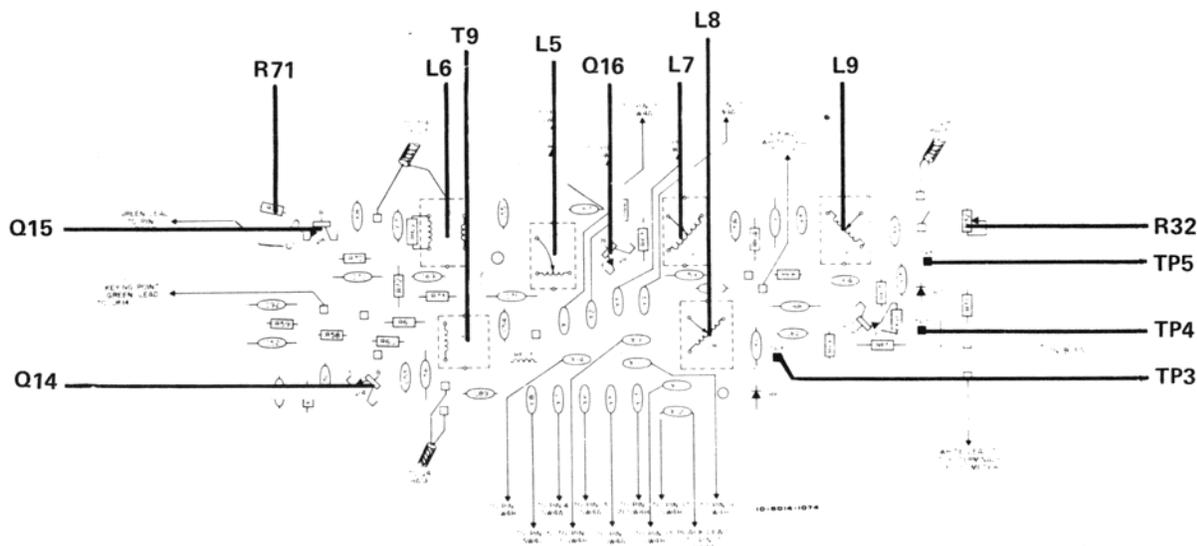

Figure 4-3 Test Point and Adjustment Locations for Synthesizer Board Alignment
Refer to Figure 4-3 for test point and adjustment locations.
- Adjust R32 (Figure 4-3) for an indication of S9 on the "S" Meter.